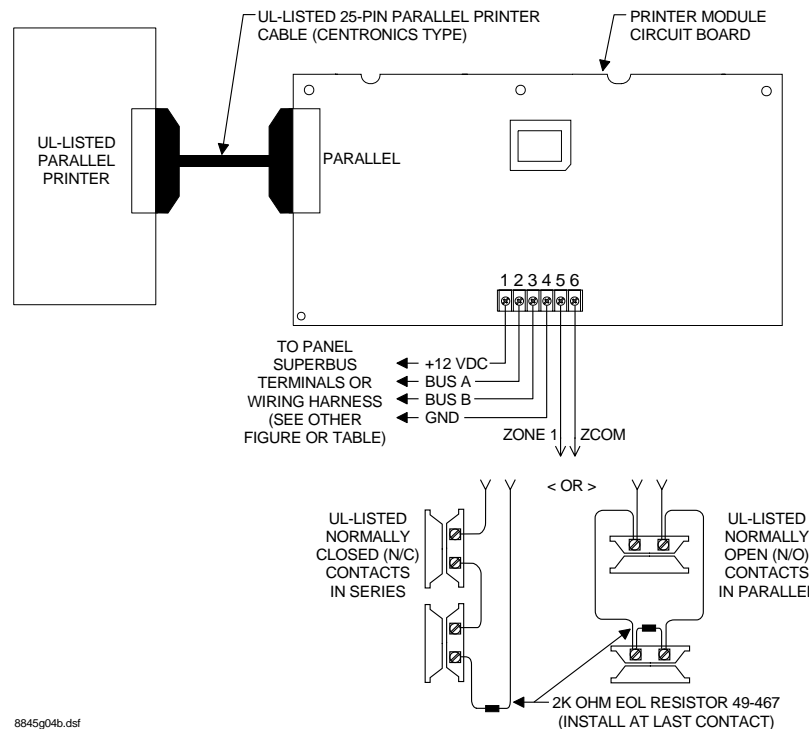

Figure 8. Advent Panel/Module Wiring
This section describes how to wire the module to the Advent panel and how to connect hardwire sensors to the module. Refer to Figure 8 and Table 2 for wiring examples and connection descriptions.
1. Attach the appropriate parallel printer cable to the connector on the module (Figure 8).
2. Connect an input device (if used) to the module zone wiring terminals (Figure 8).
If the module is visible, you may want to add case tamper detection. Then, if someone opens the cover, the switch opens and causes an alarm. To add module case tampering, install a magnet in the cover and a reed switch into the back plate or case. Wire the switch to the module or one of the panel zone inputs. See Figure 8 or panel *Installation Instructions*.